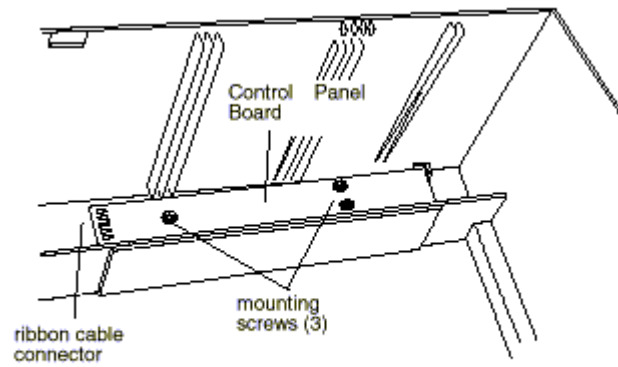

Figure 1.
4. Remove the mounting screws (3) from the Control Panel Assembly; remove the board (Figure 1).
3. Position the Paper Feed / Carriage Assembly as shown in Figure 1.
4. Disconnect J3 from the Relay Board. See Figure 1.